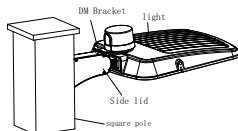

Figure 16
Step 2: Put the connected wire into the junction box, then cover the junction box.(Figure 16)